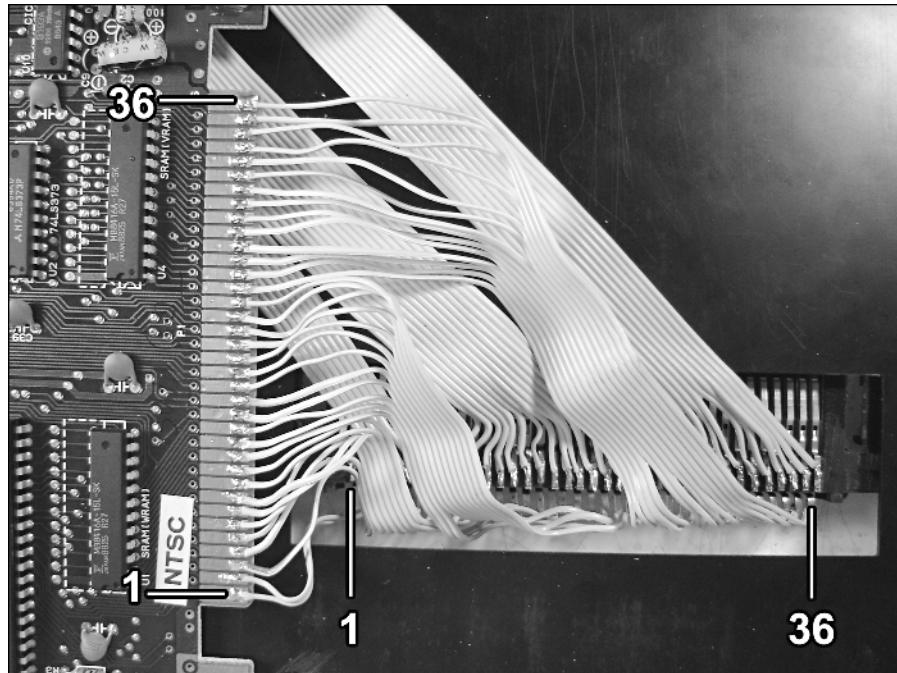

FIGURE 8-19: The top row of pins connected to the NES board.
4. Now back to the cartridge connector: Set down the NES board on the side of the center match plate as shown in Figure 8-19, and tuck the bottom pin ribbon cables under it—we'll be attaching the top ribbon cables first. Solder the thirty-six top ribbon cable wires to the NES board as shown. The wires have been numbered for reference so you can see where they go.